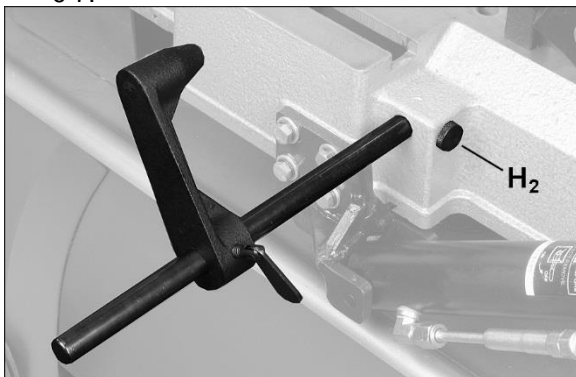

Figure 6-7: installing work stop (**712 only**)
- 712 only:** Install work stop rod into hole and tighten knurled nut (H₂). Slide stop block onto rod and secure with thumb screw. See Figure 6-7.